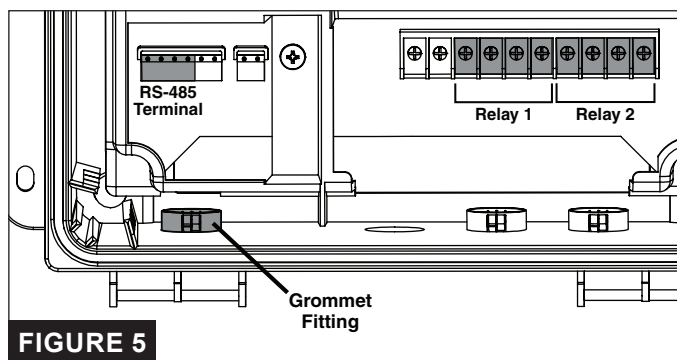

FIGURE 5
A single speed filter pump should be wired to either Relay 1 or Relay 2 (**FIGURE 5**). Check the electrical rating marked on the pump motor before connecting it to the system.
Each IntelliFlo Variable Speed Pump is shipped with a 50 ft. (15.2 m) RS-485 communication cable. This cable will be used to connect IntelliFlo to IntelliConnect's RS-485 Terminal (**FIGURE 5**).
5. Insert the cable conductors into the left-most Grommet Fitting (**FIGURE 5**) and pull the cable into the wiring compartment.
6. Insert the GREEN and YELLOW conductors into the RS-485 Terminal (**FIGURE 5**) according to the markings on the control board and secure them in place.